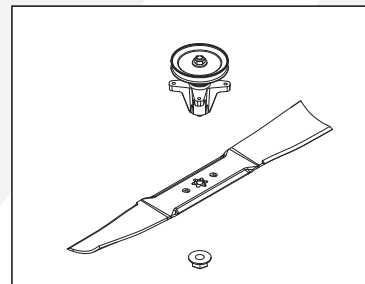

Fig. 31
5. Remove the blade nut and blade. (Fig. 31)